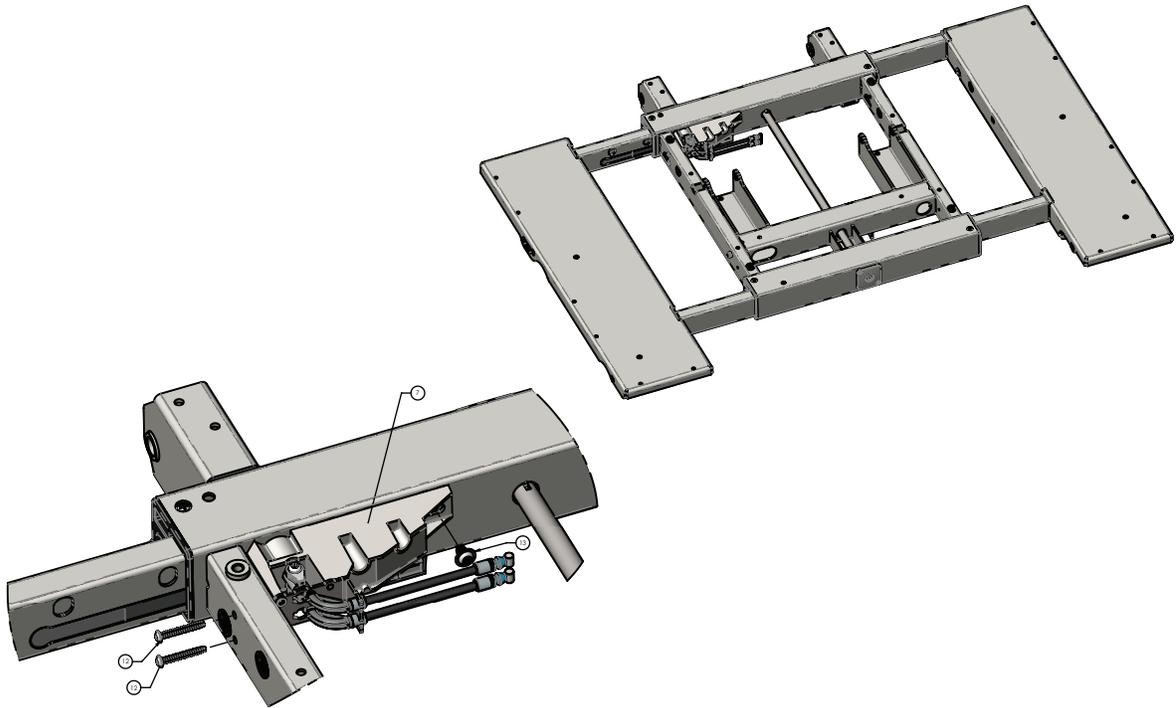

Figure 16 – DPM board replacement, head
10. Using a T25 Torx driver, remove and save the screw (13) that secures the DPM assembly (7) to the Fowler frame (Figure 16).
11. Using a T20 Torx driver, remove and save the two screws (12) that secure the DPM assembly (7) to the Fowler frame (Figure 16).